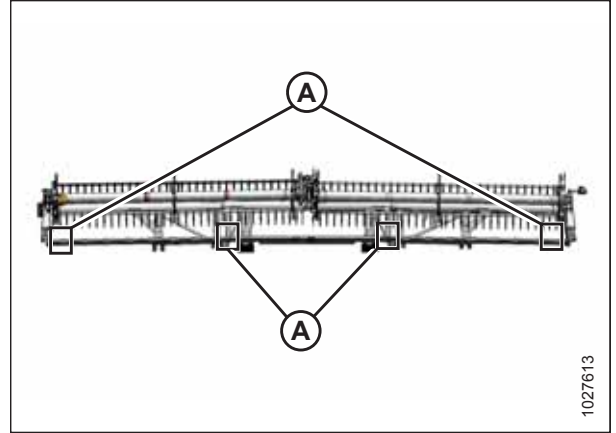

Figure 5.302: FlexDraper® Measurement Locations – Double Reel
- Figure 5.302, page 575 – double reel